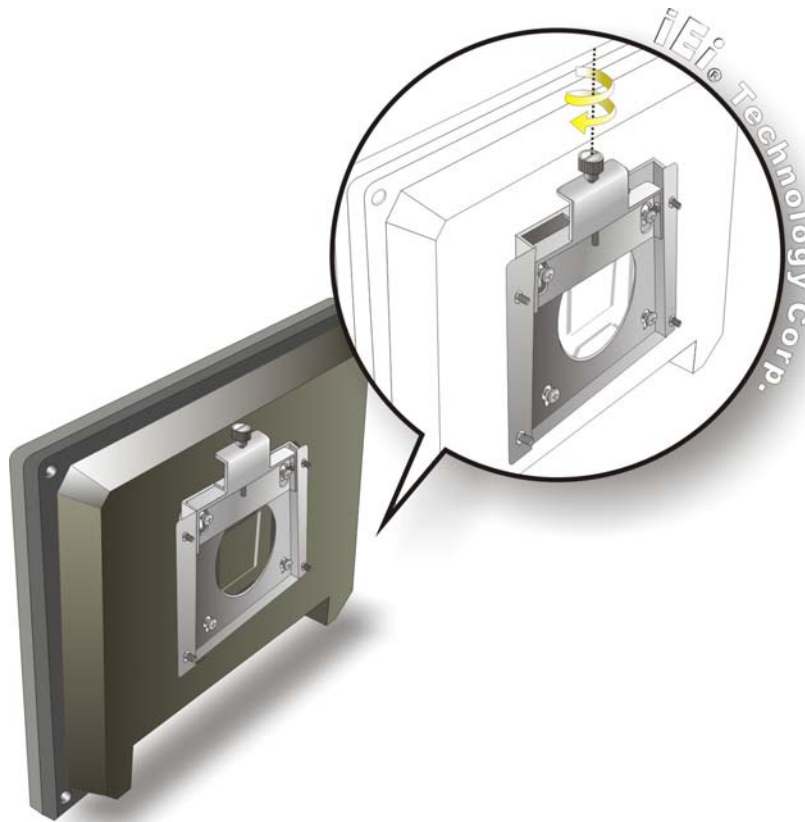

Figure 2-23: Secure the Panel PC
- Step 9:** Secure the panel PC by fastening the retention screw of the wall-mounting bracket. (Figure 2-23).